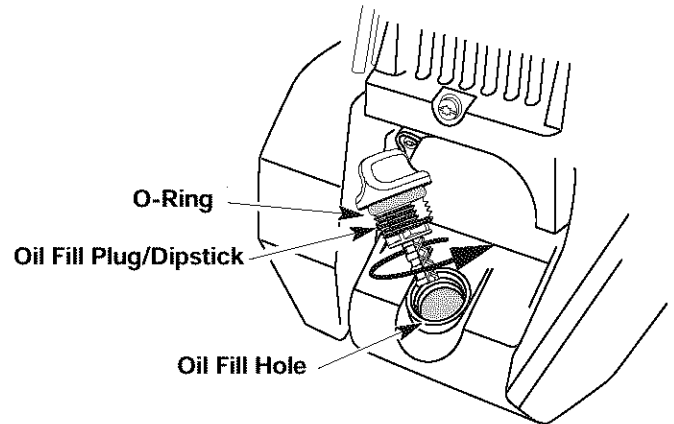

Fig. 4
3. Remove the oil plug / dipstick from the crankcase (Fig. 4).